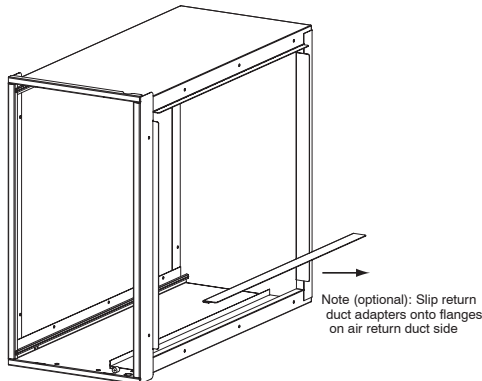

Fig. 6 - Use of Return Duct Adapters
- Return air duct adapters have been included for installer convenience. They should be used to connect the upstream side of the air purifier cabinet to the return air duct (see Fig. 6).